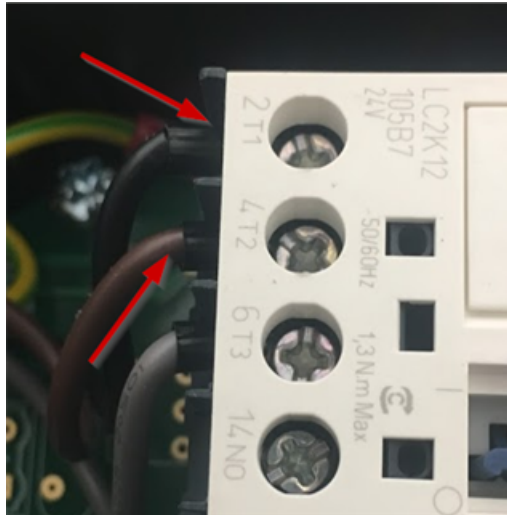

Figure 10. Swapping motor phases
2. Swap the positions of the black and brown wires. Once swapped the black wire should be connected to the first terminal T1 and the brown wire to the second terminal T2 as shown in Figure 10.